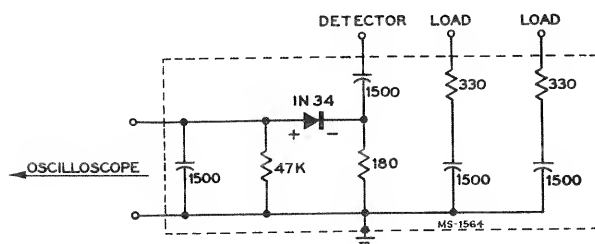

Figure 18—I-F Test Block
**I-F Load and Detector Block.** — Refer to figure 18 under Alignment Procedure.
Connect the "Detector" lead from the "I-F Test Block" shown in figure 18, to test point TP2 on top of the tuner. Connect the oscilloscope to the "Oscilloscope" terminals on the "I-F Test Block."
Connect the "Detector" lead from the "I-F Test Block" to the plate of the first picture I-F amplifier, pin 5 of V109 and the oscilloscope, through the preamplifier if required, to the "Oscilloscope" terminals of the "I-F Test Block." (Refer to figure 18.)